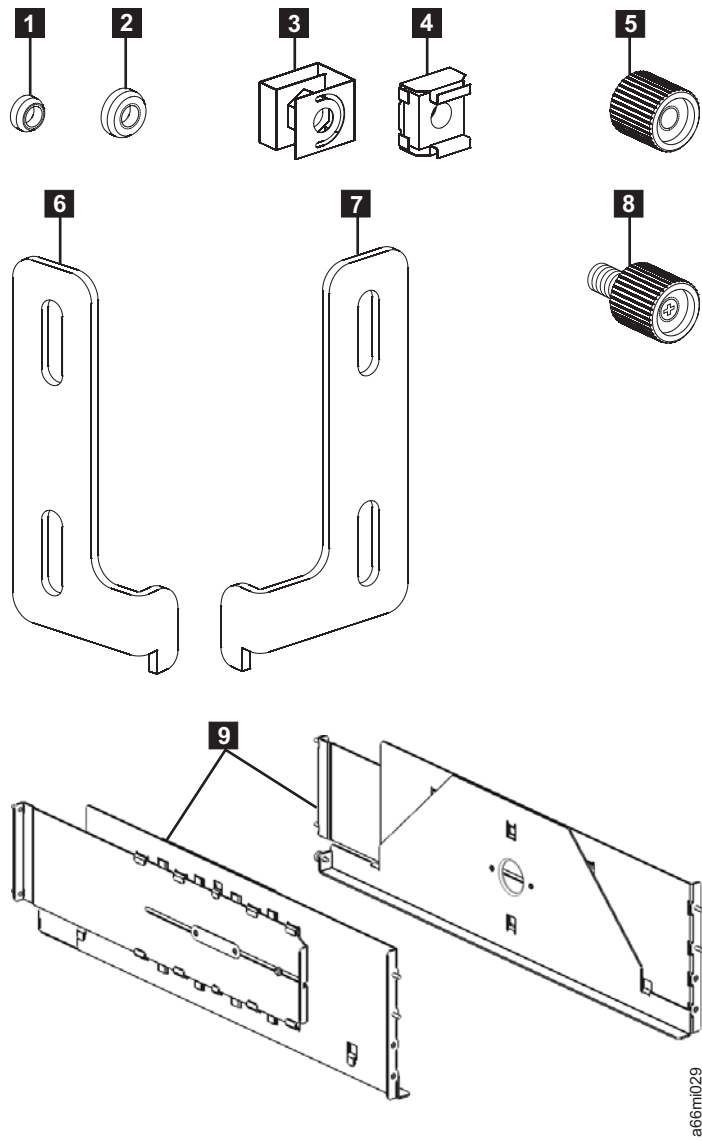

Figure 3-11. Rack Mount Kit hardware (parts not sized proportionately in figure)
16	Centering nuts: <ul style="list-style-type: none"> • 8 for racks with round holes (1 in Figure 3-11) • 8 for racks with square holes (2 in Figure 3-11)
8	Black thumb nuts (5 in Figure 3-11)
2	Rack ears (6 and 7 in Figure 3-11)
4	Rack ear screws (8 in Figure 3-11)
2	Rails (9 in Figure 3-11)
8	Clip/Cage nuts: <ul style="list-style-type: none"> • 4 clip nuts for racks with round holes (3 in Figure 3-11 on page 3-12) • 4 cage nuts for racks with square holes (4 in Figure 3-11 on page 3-12)
2	Rack ears (6 and 7 in Figure 3-11 on page 3-12):
4	Rack ear screws (8 in Figure 3-11 on page 3-12):
The rails (**9** in Figure 3-11 on page 3-12) in the Rack Mount Kit will be used to support the bottom unit of your library, and require 5 EIAs (or 15 holes) of vertical rack space. However, there are only 4 rail studs on each rail, positioned in a staggered manner for increased stability. For proper installation, you must first determine where the bottom of your library will be, then identify which holes you'll use for the rail studs and place either cage nuts (for racks with square holes) or clip nuts (for racks with round holes) in the appropriate locations.
3. Install clip nuts (**3** in Figure 3-11 on page 3-12) for vertical rack rails with round holes or cage nuts (**4** in Figure 3-11 on page 3-12) for vertical rack rails with square holes in the front rack rails in the marked positions.
5. Install clip nuts (**3** in Figure 3-11 on page 3-12) for vertical rack rails with round holes or cage nuts (**4** in Figure 3-11 on page 3-12) for vertical rack rails with square holes in the front rack rails in the marked positions.
- Use the round hole centering nuts (**1** in Figure 3-11 on page 3-12) for vertical rack rails with round holes.
- Use the square hole centering nuts (**2** in Figure 3-11 on page 3-12) for vertical rack rails with square holes.
- b. Place a thumb nut (**5** in Figure 3-11 on page 3-12) on each stud and tighten.